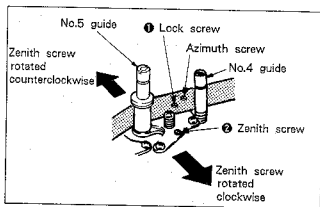

Fig. 7-74.
- 1) Play back the alignment tape (WR5-1C) for tracking and rotate No.4 guide and No.5 guide counterclockwise in order to make the tape running on the exit side free. (See Fig. 7-74.)
- i) Rotate the lock screw ① counterclockwise to loosen.
- ii) Slowly rotate the zenith screw ② 45° at a time and wait until the RF waveform varies.
- iii) Rotate the lock screw ① clockwise to tighten. (See Fig. 7-74.)